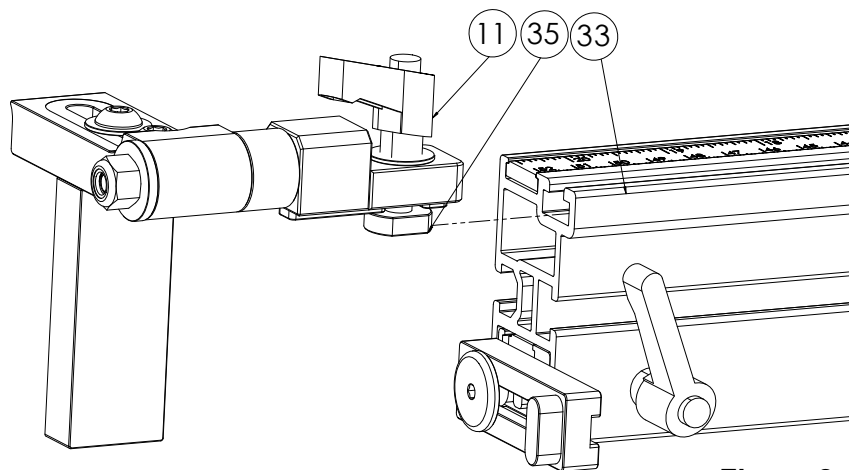

Figure 2
- a. Loosen the clamping handle (Part #11) and slide the Flip Stop T-Bolt - Short (Part #35) into the T-slot on the Fence Extrusion (Part #33). See **Figure 2**